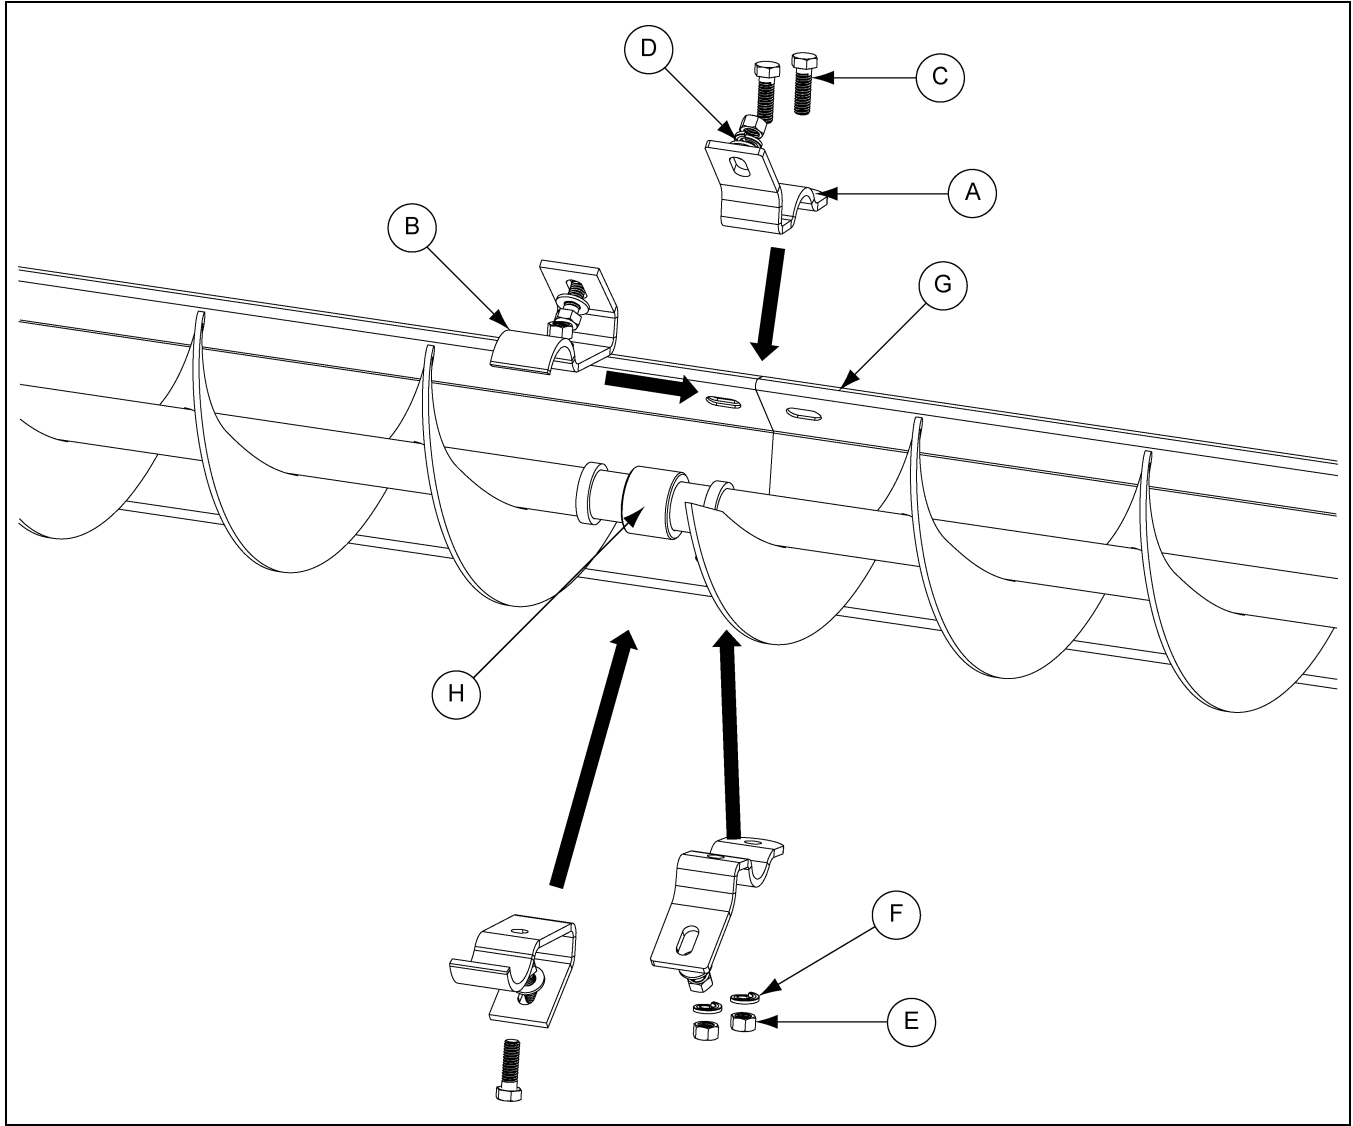

Figure 4L
Step 12: Centre support on 8" augers > 29' (8.8 m). (See Figure 4L.)